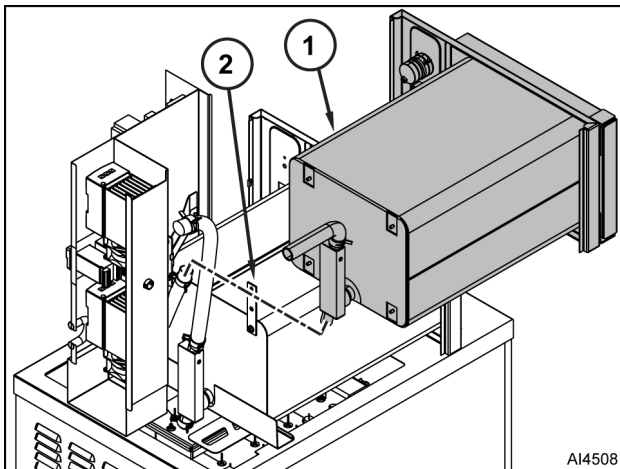

Fig. 47
- F. Remove nuts that secure upper cooking compartment (1, Fig. 47) to vertical brackets (2).